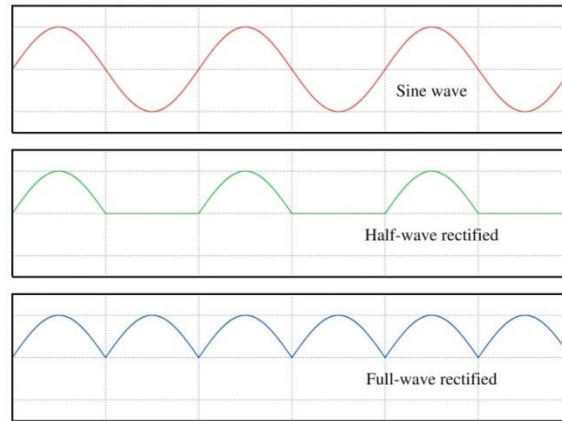

Figure 4
When this amplitude-modulated signal is to be detected, two steps need to be carried out at the receiver to retrieve the original signal (in this case, a simple sine wave) that was transmitted, and these steps constitute what is known as the "demodulator" – rectification and filtering. Rectification can be of two types – half-wave or full-wave (see Fig. 4). In the simpler case of half-wave rectification that we shall consider in this part, only the positive values of the incoming signal are selected, and the other values are put to zero; this is shown in (2) in the figure below. Next, to remove the high frequencies associated with the carrier wave and other noise added to the signal during signal propagation, a simple low pass filter is used, as shown in (3) in the figure below. The final output of the detector, or demodulator, is the demodulated signal.